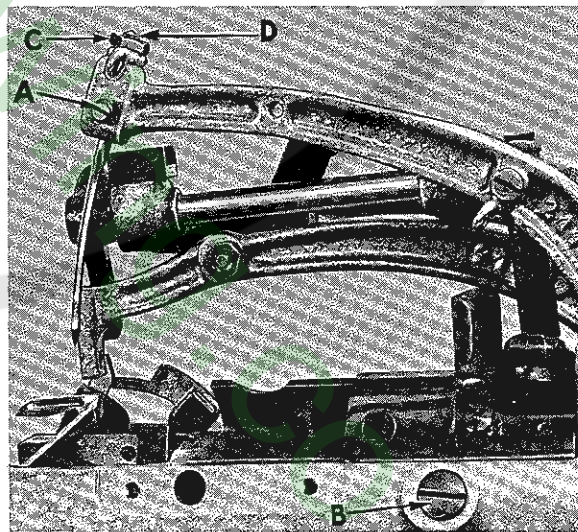

Fig. 2
This machine uses needle Type 9854 size 080. It is inserted in the needle lever with its flat directly under the set screw (A, Fig. 2). The needle should be pushed up in its holder as far as it will go.
In order to make this adjustment remove the plug screw from the front of the frame casting (B, Fig. 2). Here will be found a set screw which holds the looper shaft. Loosen this screw and move the looper shaft to right or left to secure the $5/32$ " looper gauge. Re-tighten set screw.
To change the height of the needle, loosen set screw (A, Fig. 2), then loosen lock nut (C) and regulate the height adjusting screw (D) to the desired position. Re-tighten lock nut and needle set screw.